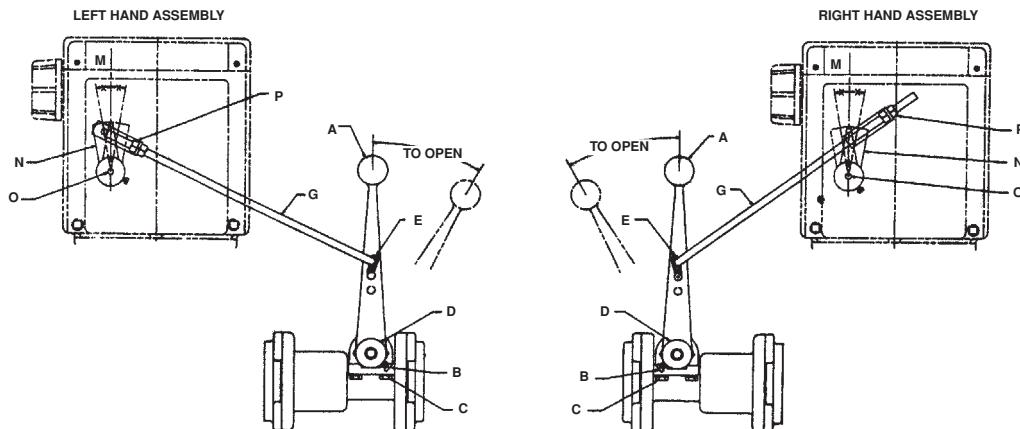

FIGURE 7
1. Depress the emergency stop button on the register and turn the shaft (O) clockwise (*as viewed from rear of register*).
2. Assemble register arm (N) on knurled knob in position as shown for specific assembly. (*See Fig. 7*). Arm should move an equal distance each side of vertical center line (M) (Angle x=x).
3. Assemble one nut (P) on connecting rod (G) and the other end of the connecting rod to the center hole in handle (A) using washers and cotter pins (E).
4. Open valve all the way. Turn shaft (O) counter clockwise to latch up mechanism. With valve held open tighten nut (P) against register arm link. Then assemble and tighten second nut at (P).
7. After the initial trip occurs the valve should close to the intermediate flow position. This rate will vary depending on product metered. If the valve closes too far, or all the way, adjust nuts (P) to provide additional rod length.
8. It is sometimes necessary to change the position of the handle. This can be done by loosening handle screw (B) and repositioning the handle as follows: if the register mechanism will not latch up, position the handle further toward the register. If the valve will not close, the handle may be positioned away from the register. Fine adjustments may be made by changing the effective length of connecting rod (G) utilizing nuts (P). Effective length of connecting rod (G) may also be varied by positioning the end of the rod in the upper or lower holes in the valve handle.